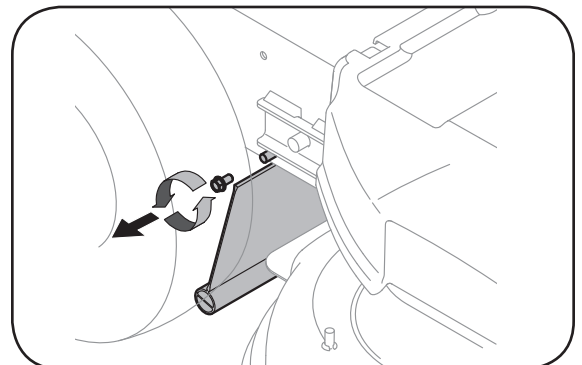

Figure 5-15
1. Remove screw and press flap in on either side to remove from hole. See Figure 5-15.